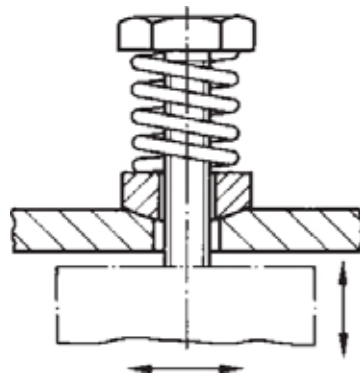

Fig. 2: Ideal fixing for group of magnets
- b) Every holding solenoid should be springmounted below a transverse rail to dampen the stroke acceleration so that in the case of uneven bearing surfaces the difference between the loads carried by the individual magnets does not vary too greatly (Fig.2).